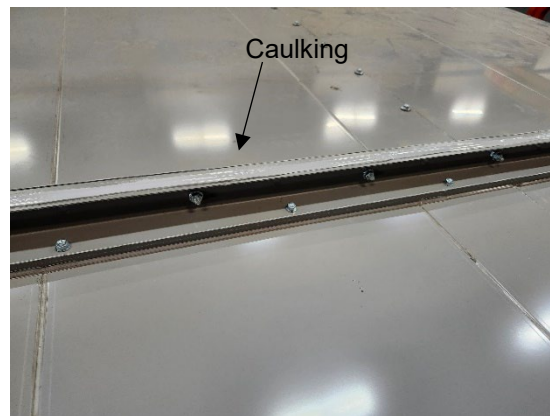

Figure 8 Exterior Roof Seam
STEP 4: Caulk exterior roof seams. See fig.8